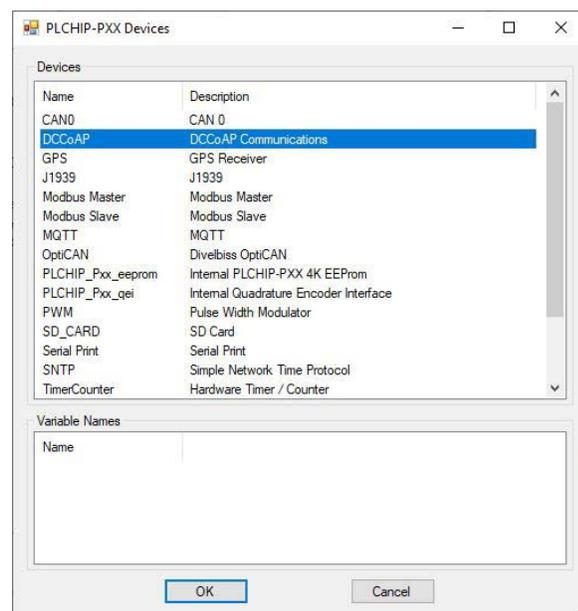

Figure 30-2
- Find and select the **DCCoAP** option (highlight). Refer to Figure 30-2.